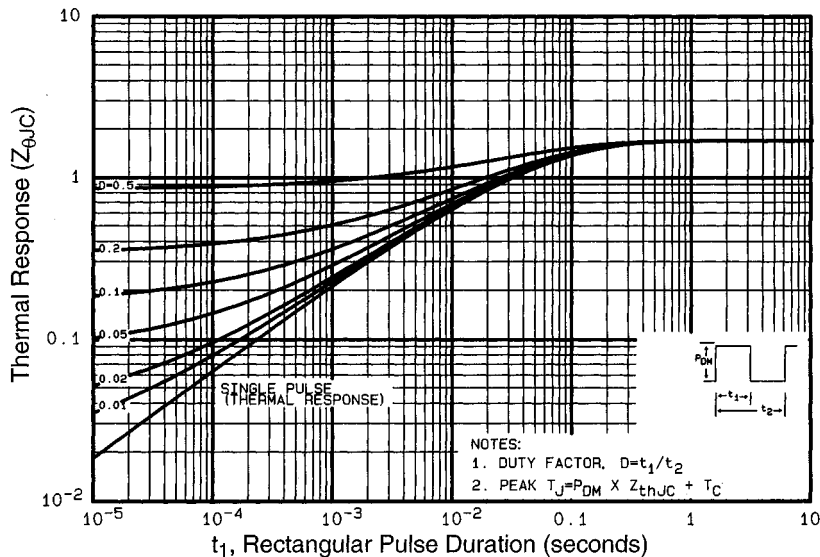

Fig 11. Maximum Effective Transient Thermal Impedance, Junction-to-Case
- ① Repetitive rating; pulse width limited by max. junction temperature. (See fig. 11)
- ② $V_{DD} = -25V$, starting $T_J = 25^\circ\text{C}$, $L = 1.3mH$